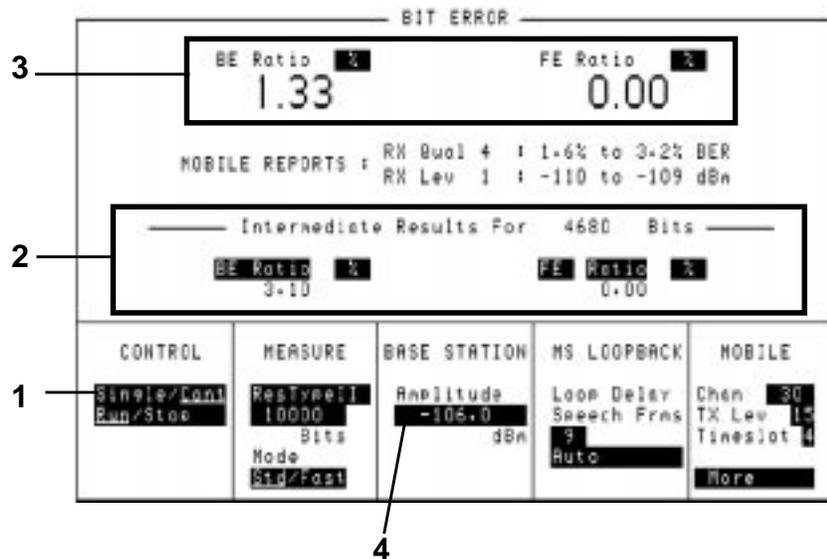

Figure 2-10
This test will run automatically if you set the **Single/Cont** field to CONT. To run a test set the **Run/Stop** field to RUN. This toggle field start/stops the BER test (1) ratio, see Figure 2-10 on page 2-19.